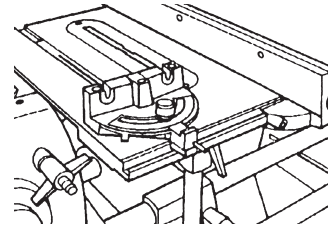

Figure 63
3. Place the Miter Gauge in the Left Slot of the Worktable on the infeed side, as shown in Figure 63.